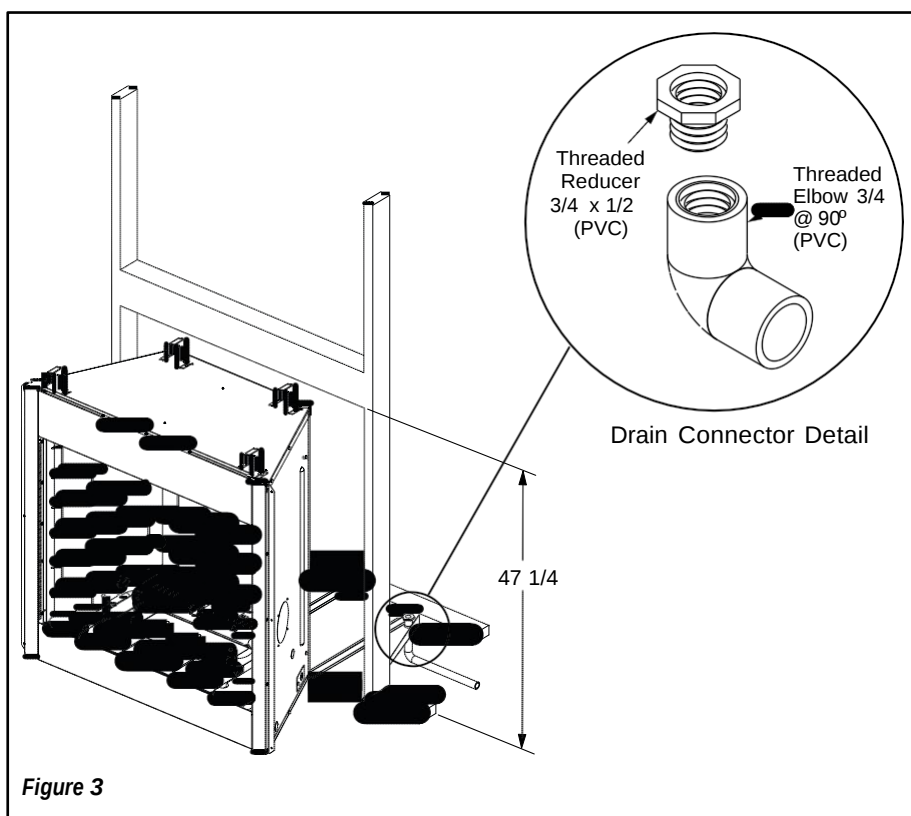

Figure 3
3. Waterproof the fireplace or install the optional drip pan (see **Waterproofing The Fireplace** and **Figure 3** on **Page 5**).
Step 1. Seal all joints, gaps and corners around the bottom of the drain pan before positioning the fireplace on its location (**Figure 3**).